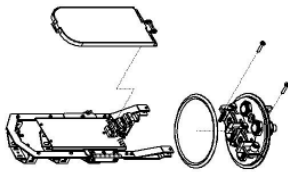

Figure 7
6.0 Closure Preparation *Refer to Figure 7*